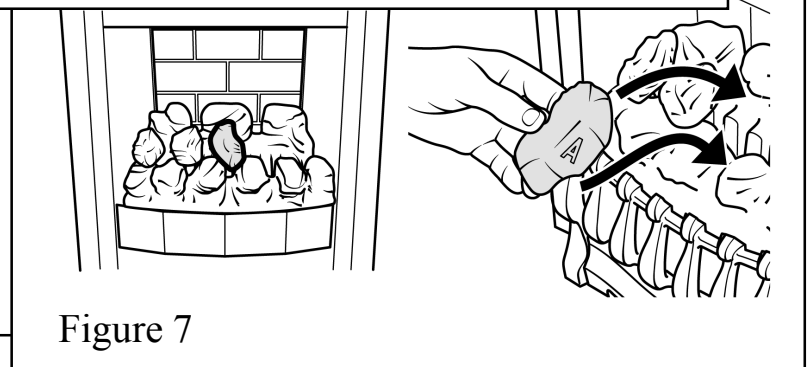

Figure 7
5. Place a type "A" coal between the front and rear base coals with the letter "A" upright. The top of the coal should rest against the centre coal of the rear base coal as shown in figure 7.